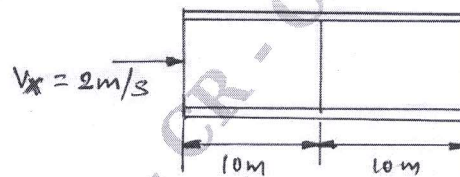

Fig.Q8(a)
- 8 a. For the smooth pipe shown in Fig.Q8(a) with uniform cross-section of  $1\text{m}^2$ , determine the flow velocities at the centre and right end, knowing the velocity at the left is  $V_x = 2\text{m/sec}$ . (10 Marks)